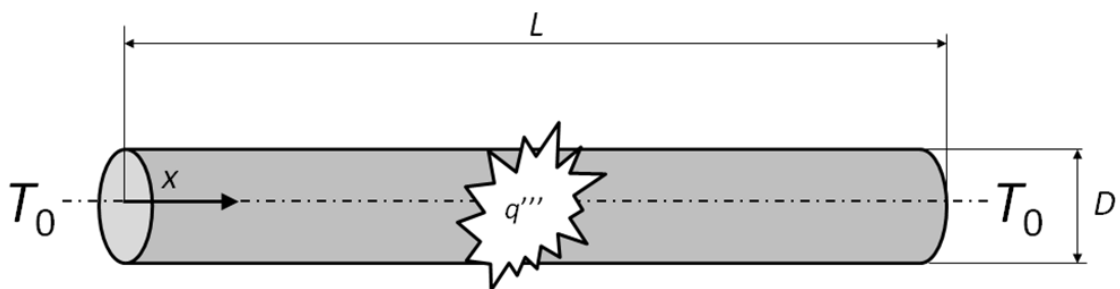

Fig. 5
- 5) A transport current of 50 A flows in the electrical conductor shown in Fig. 5 (laterally insulated, with length $L = 1$ m, resistivity $\rho = 1.75 \times 10^{-8}$ Ω m, thermal conductivity $k = 350$ W/m/K), with diameter $D = 4$ mm. Compute the temperature distribution along the conductor, if the boundaries ($x = 0$, $x = L$) are kept at the given temperature $T_0 = 300$ K. Solve the problem numerically using FD.